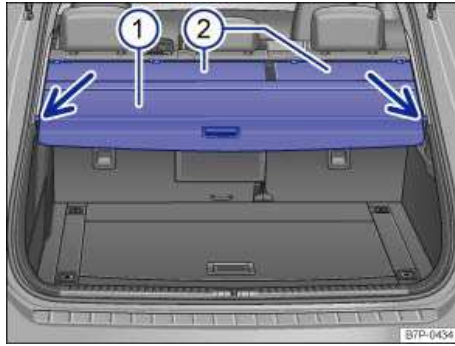
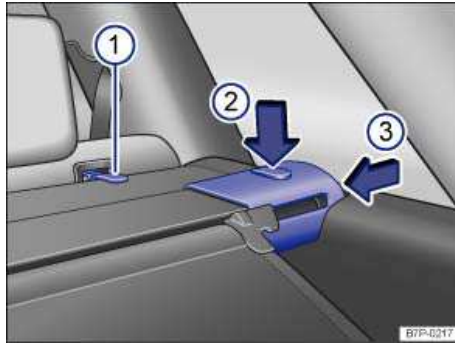

Fig. 101 In the luggage compartment: Closed luggage compartment cover.
Fig. 102 In the luggage compartment: Removing the luggage compartment cover.
- Grasp the luggage compartment cover ⇒ fig. 101 (1) by the handle and pull it slightly to the rear.
- If there is a gap cover (2), unhook it from the fastening eyes on the rear seat backrests ⇒ fig. 102 (1).
- Push down release button (2) and push in the end parts of the luggage compartment cover (3).
- First fit the luggage compartment cover ⇒ fig. 101 (1) into the left-hand slot.
- Push down release button ⇒ fig. 102 (2) and push in the end parts of the luggage compartment cover (3).
- If there is a gap cover ⇒ fig. 101 (2), hook it back into the fastening eyes on the rear seat backrests ⇒ fig. 102 (1).